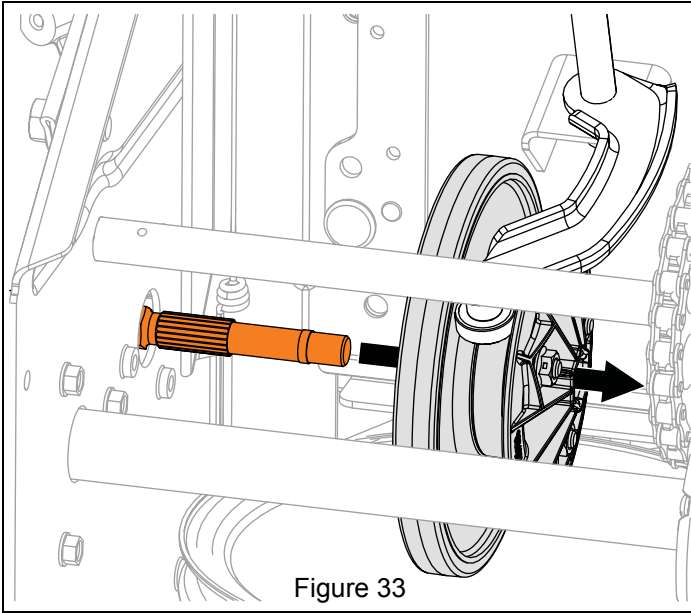

Figure 33
1. Install friction disc assembly around shift fork roller bearing and align with hex shaft. See Figure 33.